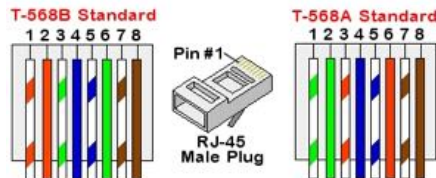

Figure 22: Standard cable wiring
- c. Insert the eight wires into an RJ45 connector, as described in *Figure 22*
7. For the switch/router side, use a pre-crimped cable or use a crimper to prepare an RJ45 communication connector: Insert the eight wires into the RJ45 connector in the same order as above (*Figure 22*).